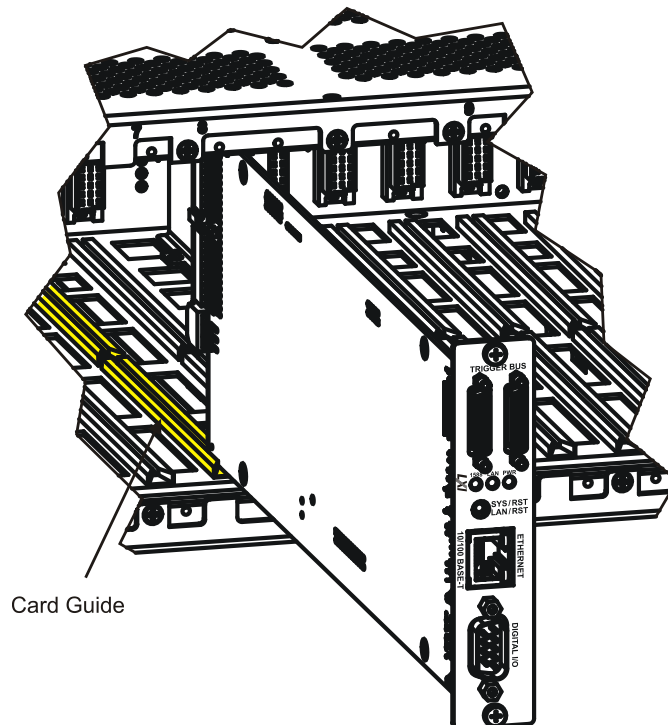

FIGURE 9-1: CPU BOARD
- 1) Using the guides shown in Figure 9-1, slide the CPU board into the mainframe unit until DMM is supported by the card guides.